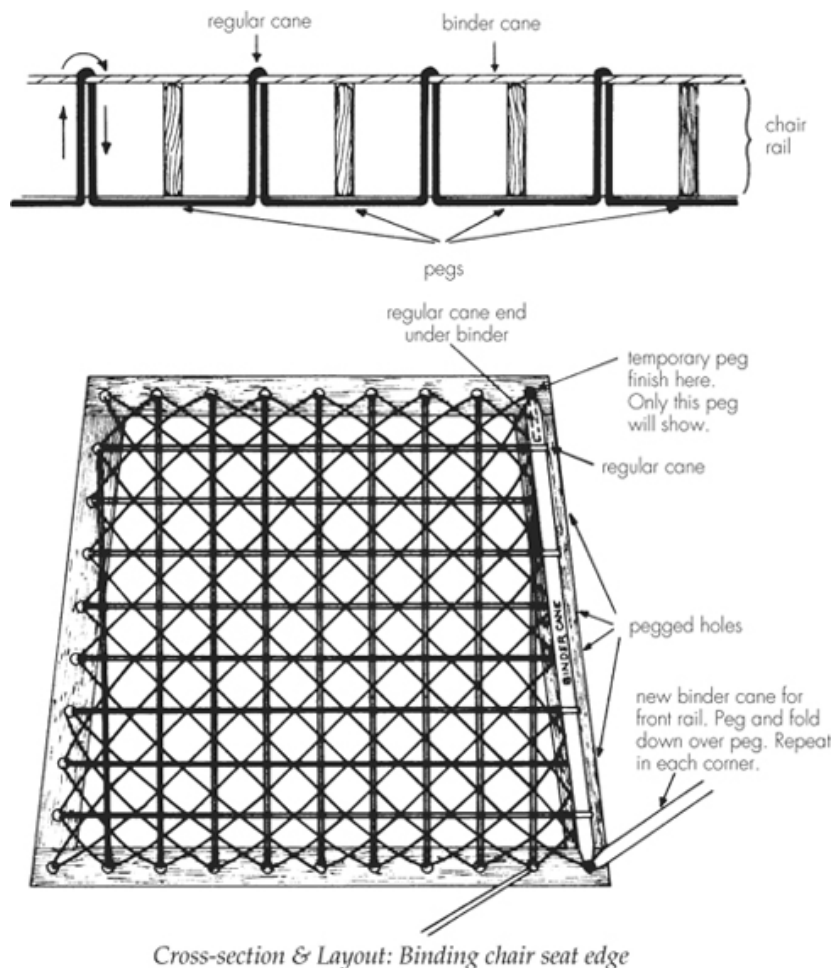

fig. 9
1. With this method you must peg every other hole, leaving open the corner holes and the two holes next to them. Always count the holes from the corners in case you have an even amount of holes. This will allow you to put two pegs together or two holes in the center of the rail. Mark the holes to be pegged with temporary pegs. See Figure 9.
8. Push the thinned end of the binder cane down into the corner hole so that it will lie over the short end of the regular cane. Peg it in place with a temporary peg. Refer to Figure 9.
10. Pass the long end of regular cane along underneath the rail to the next open hole. Go up this hole, over the binder and down through the same hole. You may need to clear the holes a bit with your awl. Be careful not to split any of the cane that is already in the holes. Refer to the cross-section view of the chair rail in Figure 9.
11. Continue this threading until you reach the corner. The regular cane should be in the last hole before the corner hole. Take the regular cane across the corner underneath the seat and come up in the first after the corner hole on the front rail. See the right front corner of the chair seat in Figure 9.
13. Take a new piece of binder cane, thin the end and put it into the same corner hole at right angles to the first piece. Peg the ends in place with a permanent peg. See the right front corner of the chair in Figure 9.
6. Finish the seat with a binding. Refer to the second method of finishing in the six-way pattern and to Figure 9.